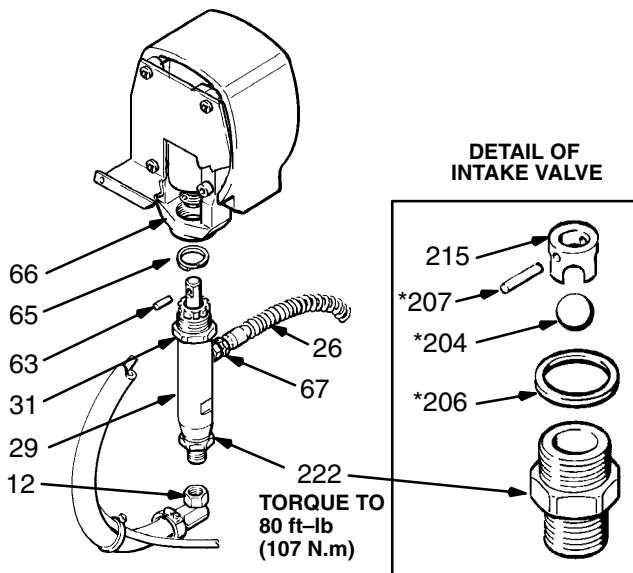

Fig 11
**Removing the Pump.** See Fig 11.
**NOTE:** Refer to Fig 11 for this procedure.
2. Hold the intake valve (222) steady with a wrench and unscrew the swivel union (12).
3. Unscrew the hose (26).
4. Use a screwdriver to push the retaining spring (65) aside, and then push out the pin (63).
5. Loosen the locknut (31) and unscrew the pump (29).
**Reinstalling the Pump.** See Fig 11.
1. Screw the pump into the 3/4 of the way into the bearing housing (66). Hold the pin (63) up to the hole in the connecting rod (68) and continue screwing in the pump until the pin slides easily into the hold. Back off the pump until the top threads of the pump cylinder are flush with the face of the bearing housing and the outlet fitting (67) is straight back. Push the retaining spring (65) firmly and completely into the groove of the connecting rod.
Be sure the retaining spring (65) is firmly and completely in the groove of the connecting rod to prevent the pin (63) from working loose due to vibration. See Fig 11.
1. Remove and disassemble the intake valve (222). If no further service is needed, reassemble the valve, using a new gasket (206). Torque to 80 ft-lb (107 N.m). See Fig 11.
2. Remove the packing nut (221) and plug (201).
3. Tap the piston rod (223) down with a plastic mallet. Pull the rod out the bottom of the cylinder (216).
4. Remove the packings and glands from the throat of the cylinder (216).
5. Clamp the flats of the piston rod (223) in a vise. Unscrew the retaining nut (214). Unscrew the piston valve (224) from the rod. Remove all parts from the piston.